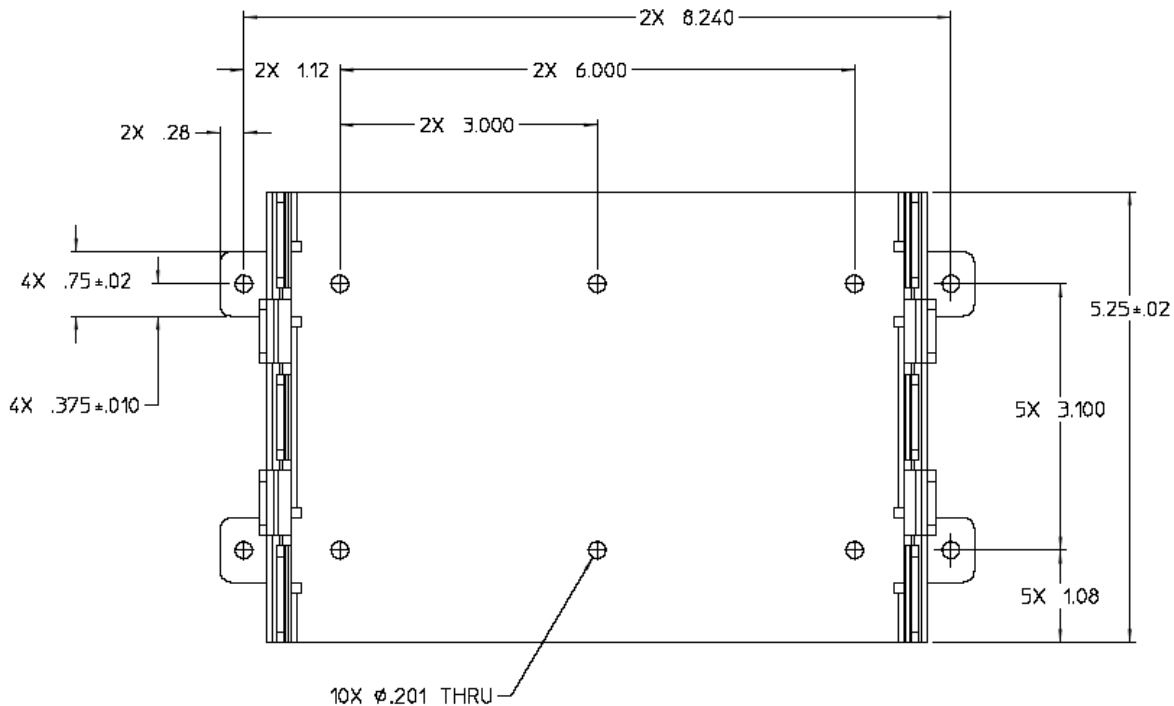
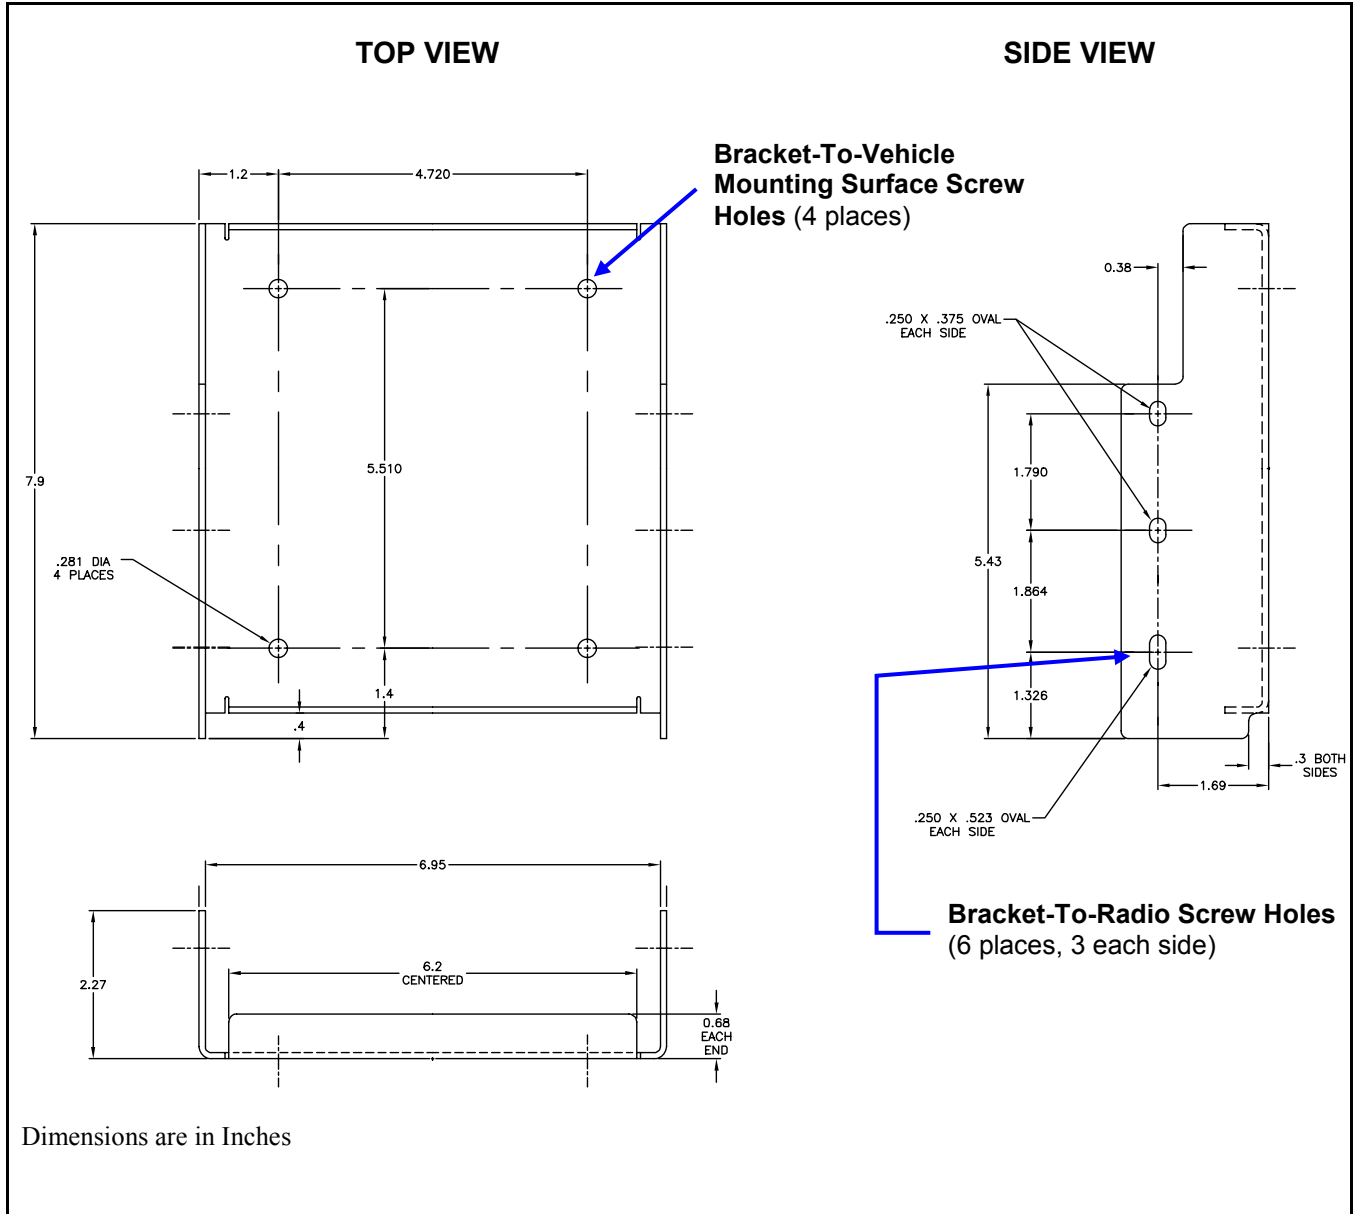

Figure 7-1: Base Bracket 1000003678 (Part of XM-ZN2G Installation Kit)
Figure 7-2: Base Bracket FM103111V1 in Bracket Kit KT23117
2. Use the Base Bracket(s) as a template or use the dimensional information shown in Figure 7-1 and/or Figure 7-2, mark and drill mounting holes into the mounting surface for the bracket(s).